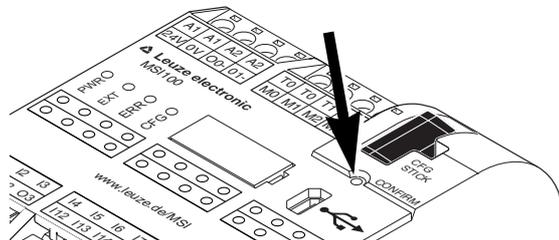

Figure 10-6 Confirming the configuration with the "Confirm" button
5. Confirm the new configuration by pressing the "Confirm" button using a pen (see Figure 10-6).